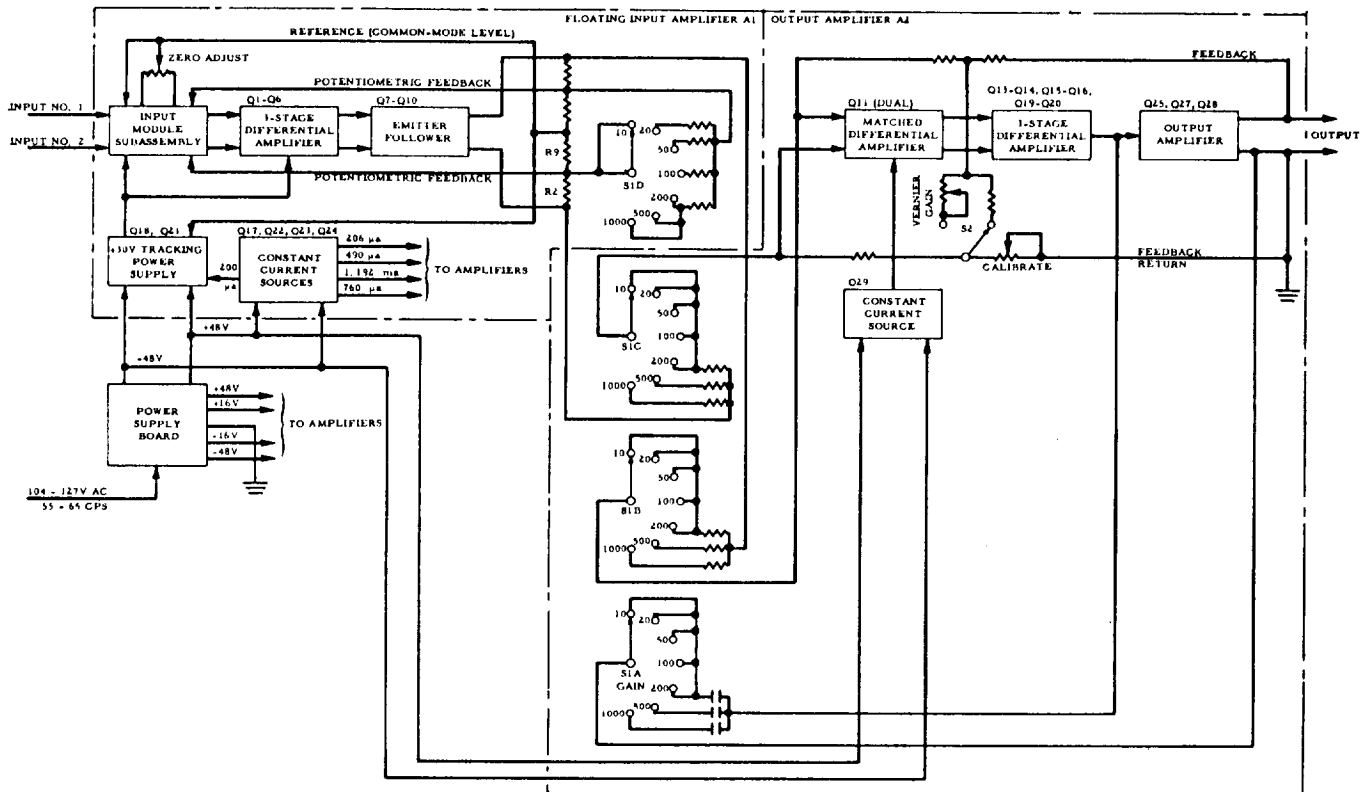

Figure 8. Functional Block Diagram of Model 1300 Differential DC Amplifier
3.3.1 Amplifier Board. The amplifier board (figure 8) contains both floating input amplifier A1 and differential operational amplifier A2. The floating input amplifier circuitry is located on the front portion of the amplifier board, and the differential operational amplifier circuitry is located near the rear of the board.